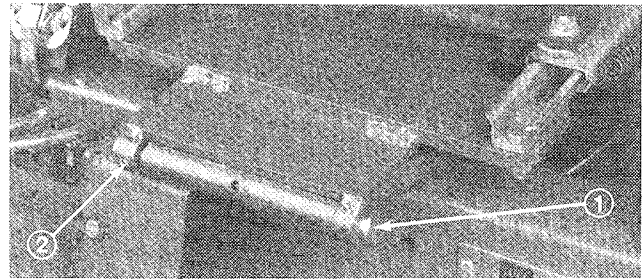

Figure 6
12. Mount seat and seat support to seat pivot bracket with pivot shaft and roll pin (Fig. 6).
14. Mount seat and seat support to seat pivot bracket with pivot shaft and roll pin (Fig. 6).